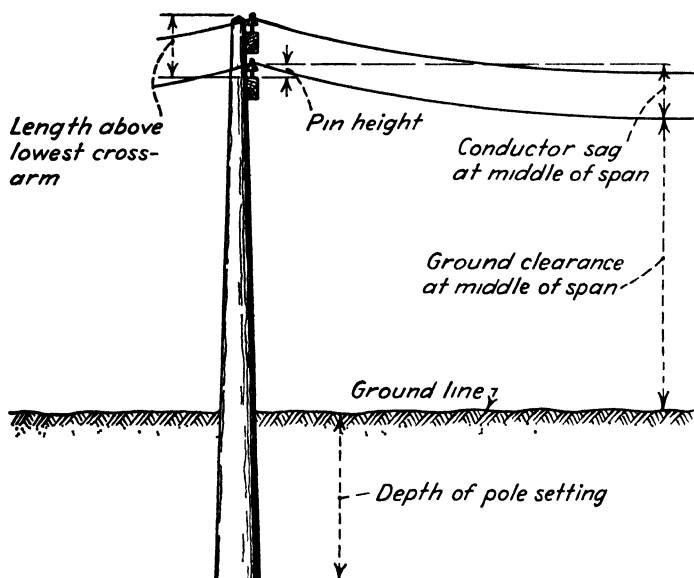

FIG. 8-23 Sketch to illustrate required pole length.
**Pole Height.** From an inspection of Fig. 8-23, it is easy to see that the length of pole required between the lowest crossarm and the ground line is equal to